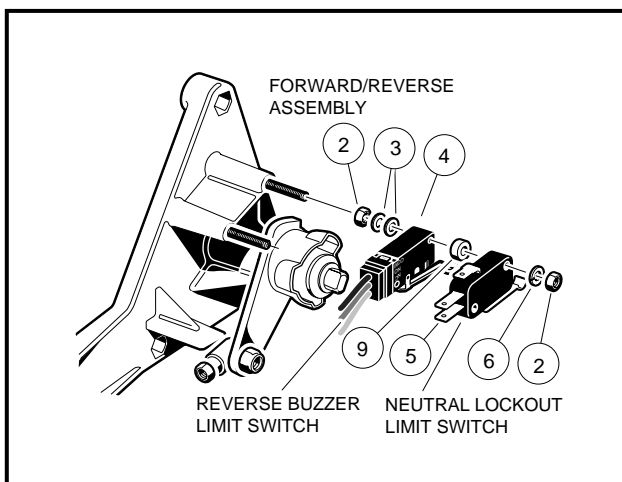

Figure 12-19 Forward/Reverse Limit Switches
2. Disconnect the green, white and black wires from the neutral lockout limit switch (5) located on the back of the Forward/Reverse shifter assembly (**Figure 12-19, Page 12-18**).
3. Remove the nuts (2) and washers (6) from the neutral lockout limit switch (5) and slide the neutral lockout limit switch off of the screws (**Figure 12-19, Page 12-18**).
1. Install the neutral lockout limit switch (5) with two washers (6) and nuts (2) (**Figure 12-19, Page 12-18**). Tighten to 5 in-lb (0.6 N·m). Place the Forward/Reverse handle in REVERSE to make sure that both switches actuate. **See following WARNING.**
2. Disconnect the orange and red/white wires from the reverse buzzer limit switch (4) located on the back of the Forward/Reverse shifter assembly (**Figure 12-19, Page 12-18**).
3. Remove the two nuts (2) and washers (6) from the neutral lockout limit switch (5) then remove the neutral lockout limit switch. Do not disconnect the wires.
4. Remove the spacers (9) from the screws (4) and then remove the reverse buzzer limit switch.
1. Install the reverse buzzer limit switch (4), and then install two spacers (9) (**Figure 12-19, Page 12-18**).
2. Install the neutral lockout limit switch (5), two washers (6) and two nuts (2). Torque to 4 in-lb (0.5 N·m).
4. Connect the orange wire to the common (COM) terminal and the red/white wire to the normally open (NO) terminal of the reverse buzzer limit switch (4) (**Figure 12-19, Page 12-18**).